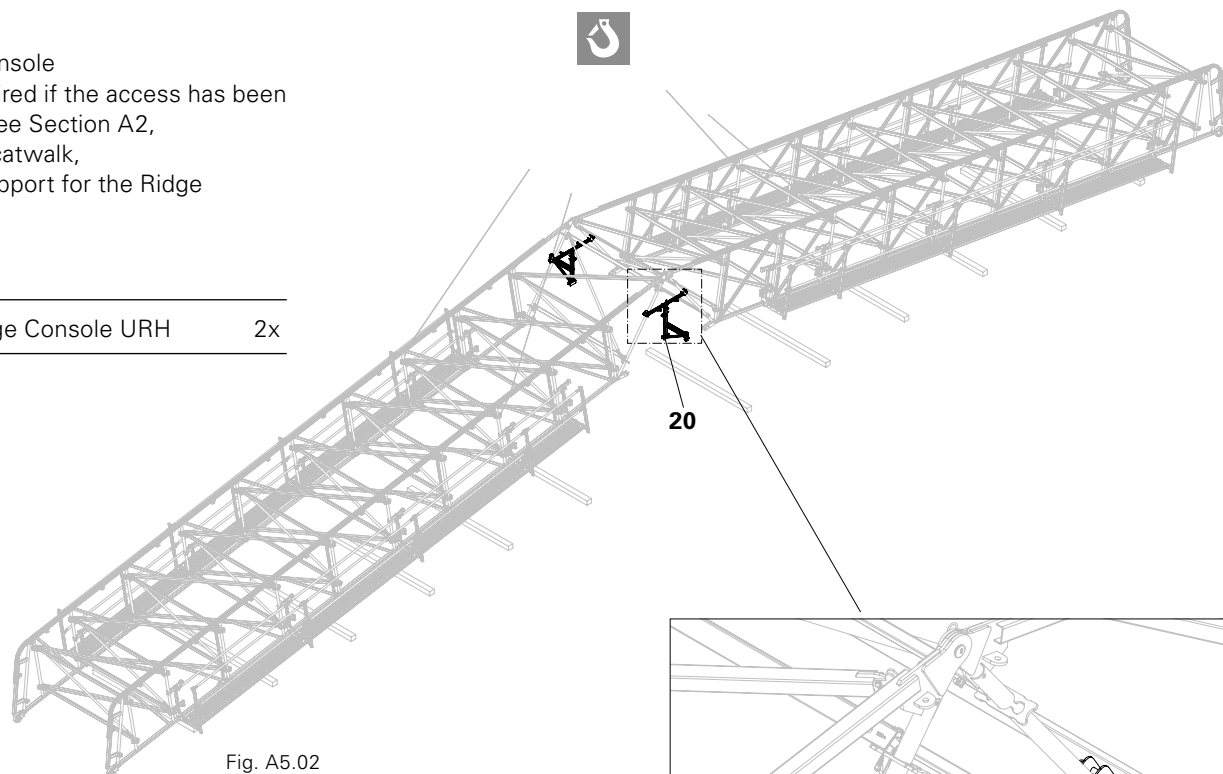
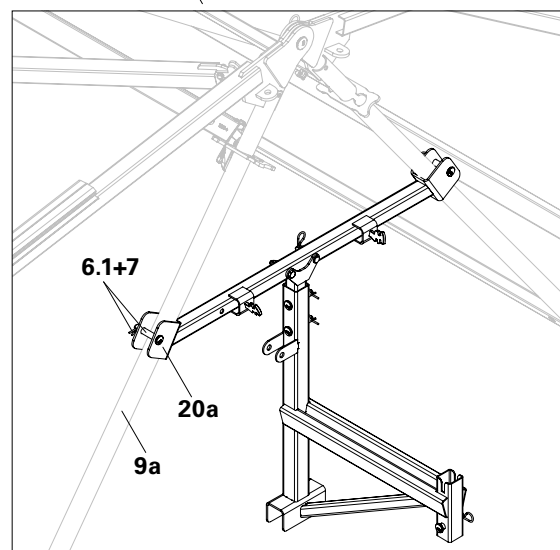

Fig. A5.02
Fig. A5.02a
2. Insert Bolts (6.1) through the holes of the lug and secure with Cotter Pins (7).
3. Repeat Steps 1 + 2 on other diagonal tubes. (Fig. A5.02a + Fig. A5.02)